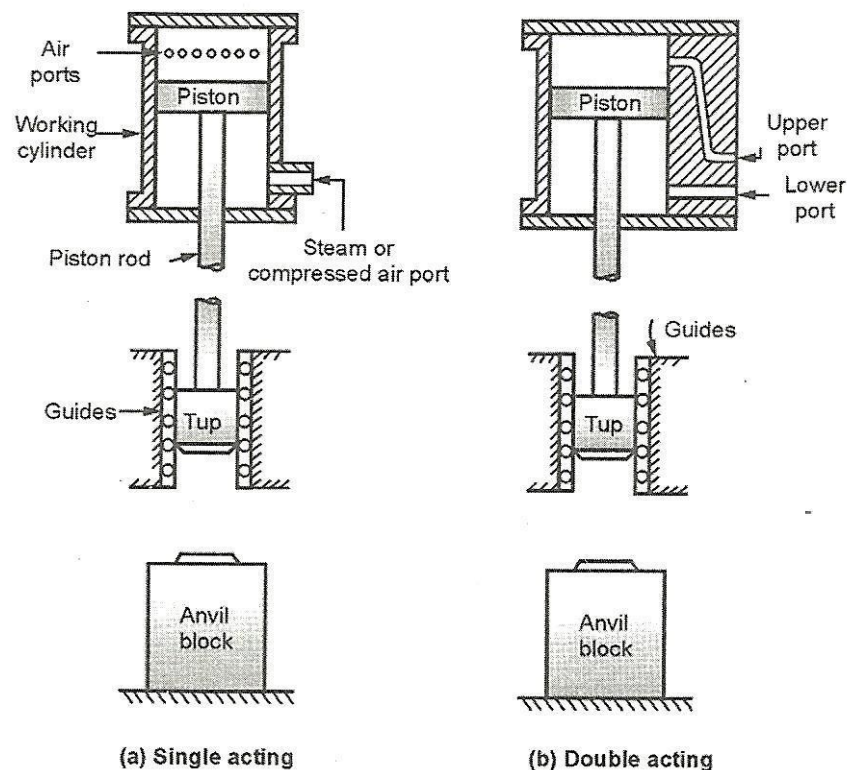

Fig. 3.17 : Steam or air hammers
- Figure 3.17 (a) and (b) shows the working principle of single acting and double acting steam or air hammers.